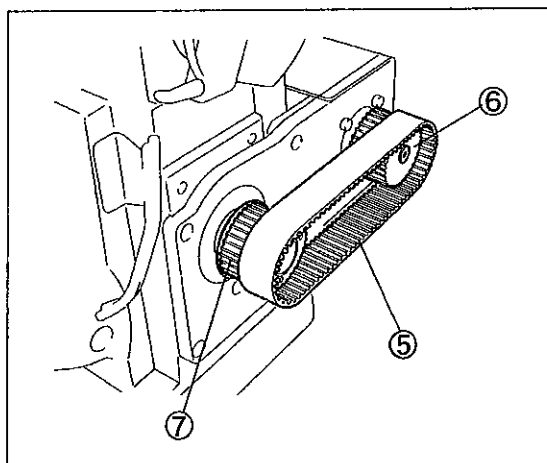

Fig. 53
3. Remove the timing belt ⑤ while turning the pulley ⑦ (Fig. 53)